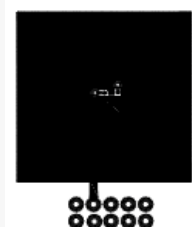
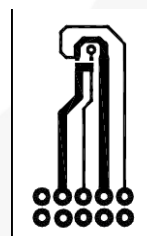

Figure 4. 1 Square Inch of 2-ounce copper
Figure 5. Minimum Pads of 2-ounce Copper
$T_A = 25^{\circ}\text{C}$ ⁽²⁾ (see Figure 5)	0.9
2. The device power dissipation and thermal resistance (R_{θ}) are characterized with device mounted on the following FR4 printed circuit boards, as shown in Figure 4 and Figure 5